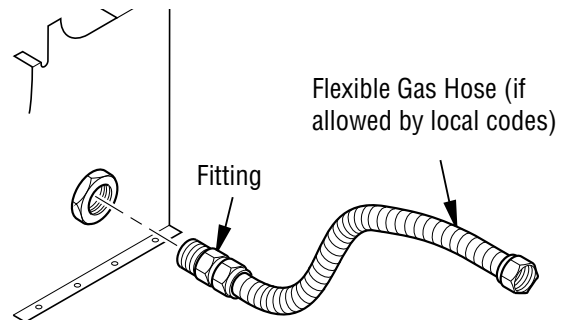

Figure 10 - Attaching Flexible Gas Hose to Heater
1. Connect approved flexible gas hose to gas control fitting in heater (*see Figure 10*).
4. Disconnect gas line from heater base as shown in *Figure 10, Page 10*.